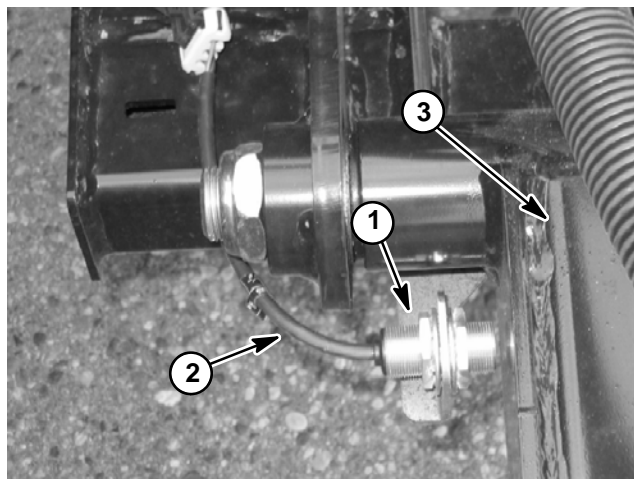

Figure 36
The cutting unit position sensor is a normally open proximity sensor that is located on the traction unit frame (Fig. 36). The sensing plate that closes the sensor is a gusset on the front right cutting unit (#5) lift arm.
3. Turn ignition switch to the ON position and check LED on cable end of cutting unit position sensor (Fig. 36). LED **should be** illuminated when the cutting units are fully lowered. The LED **should not be** illuminated when the cutting units are raised above the turn-around position.